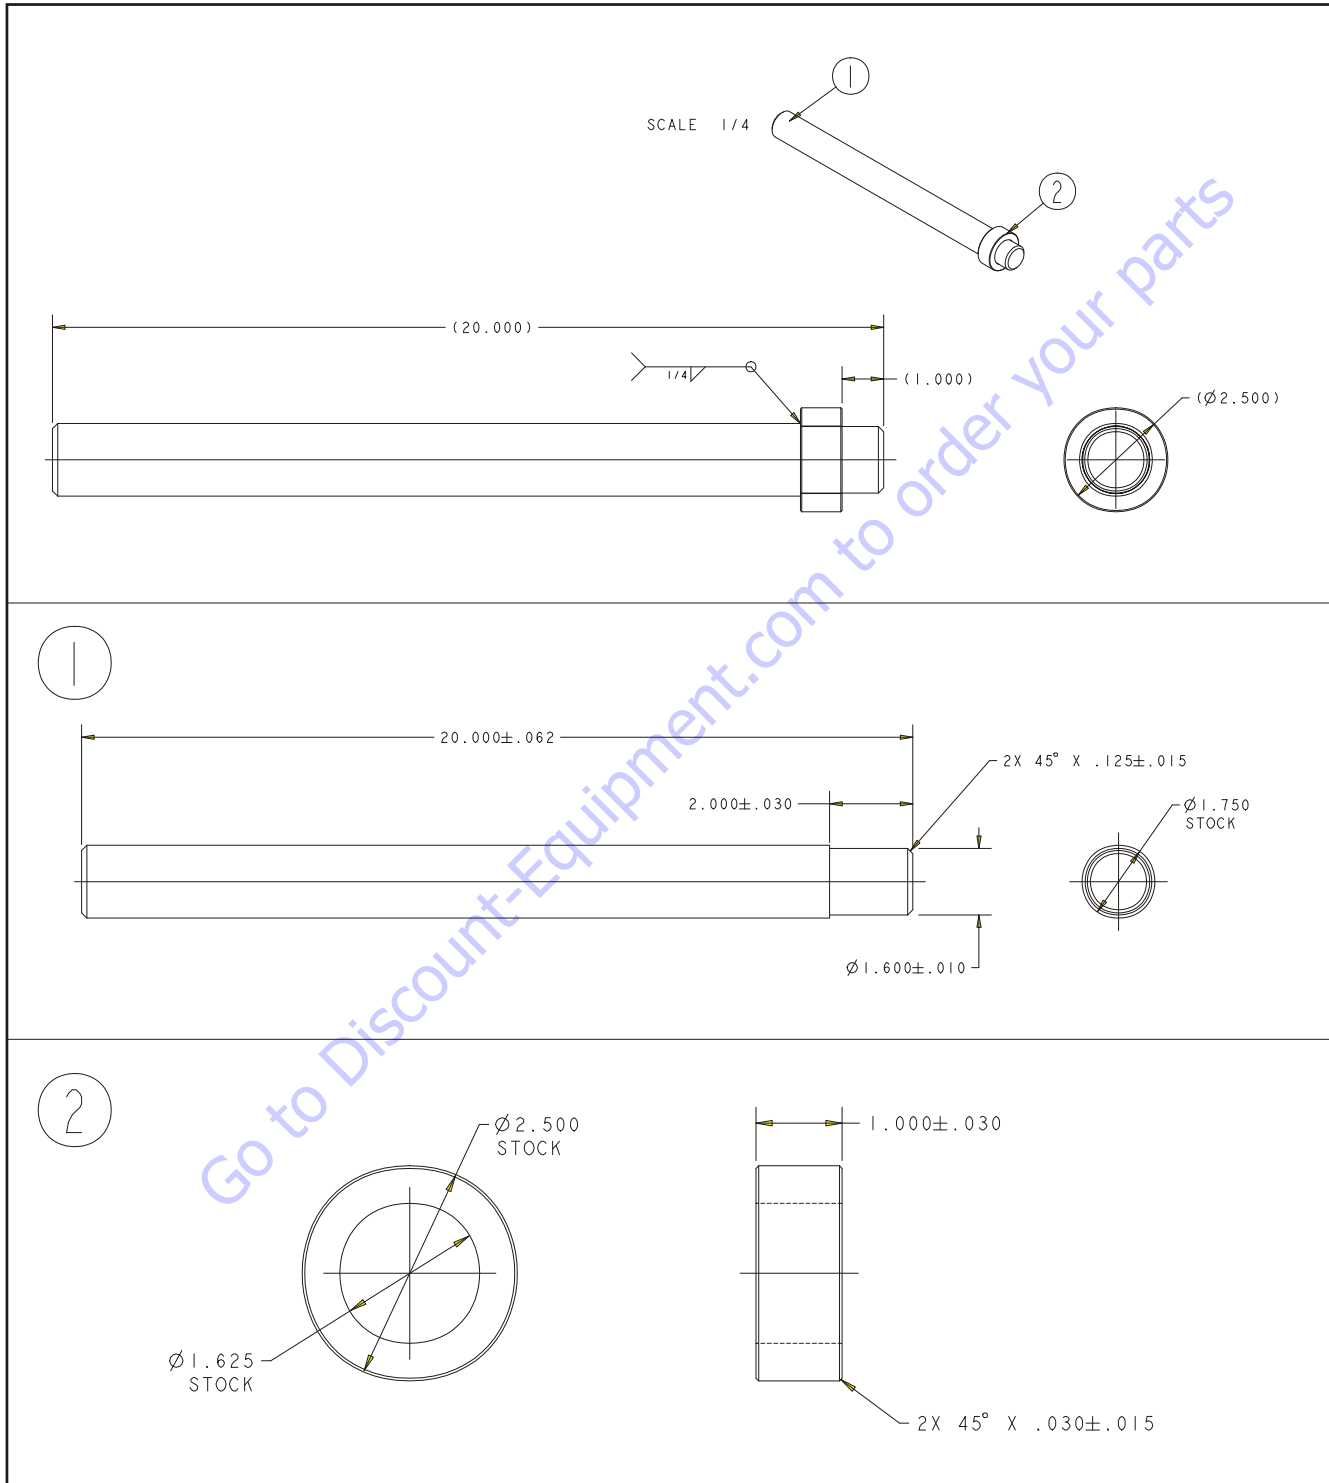

Figure 4-17. Load Pin Removal Tool, JLG PN 4846765
6. Use the Load Pin Removal Tool (JLG PN 4846765) to prevent the pin from being damaged, and use a hammer to remove the pin. To make the tool refer to Figure 4-17., Load Pin Removal Tool, JLG PN 4846765. If the Load Pin Removal Tool is not available, use an arbor of the proper size (as shown below). If excessive force is necessary to move the pin, it may be necessary to carefully activate lift using the auxiliary power switch to relieve lift cylinder weight from the load sensing pin.